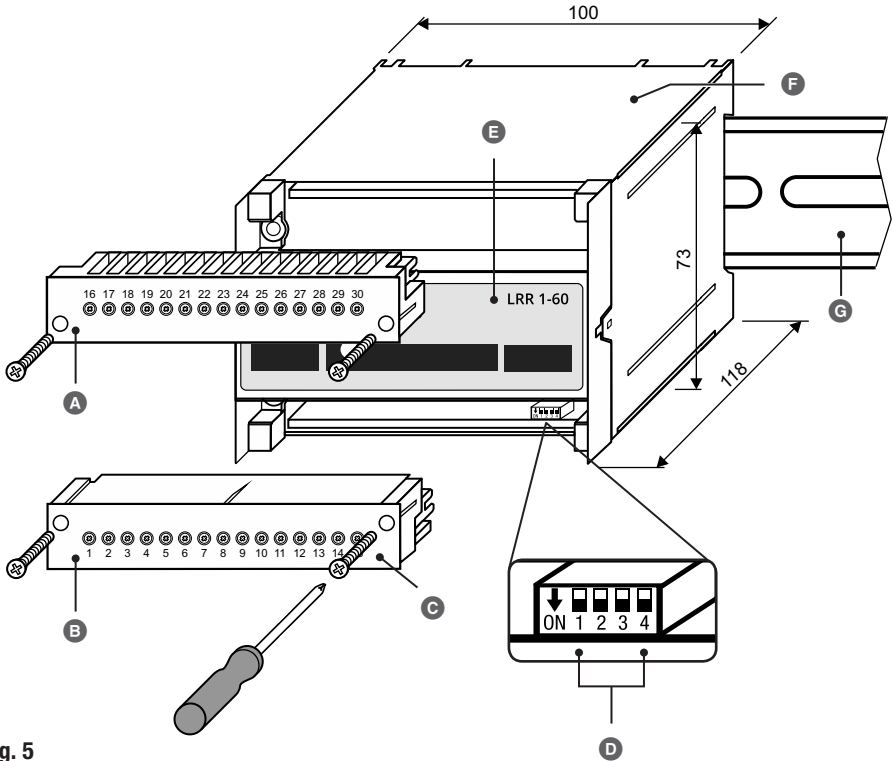

Fig. 5
You can change the baud rate and controller group of the conductivity controller LRR 1-60 at any time using code switch  (see **Fig. 5**).
2. Unscrew and pull off the lower terminal strip, see **Fig. 5**.
3. Set code switch  (see **Fig. 5**) as desired, see page 23, **Fig. 8**.
For operation, you must define the controller group and baud rate for the conductivity controller on code switch **Ⓢ** Fig. 5. The desired controller functions are achieved by connecting the different conductivity electrodes and configuring the URB 60 visual display and operating unit as appropriate.